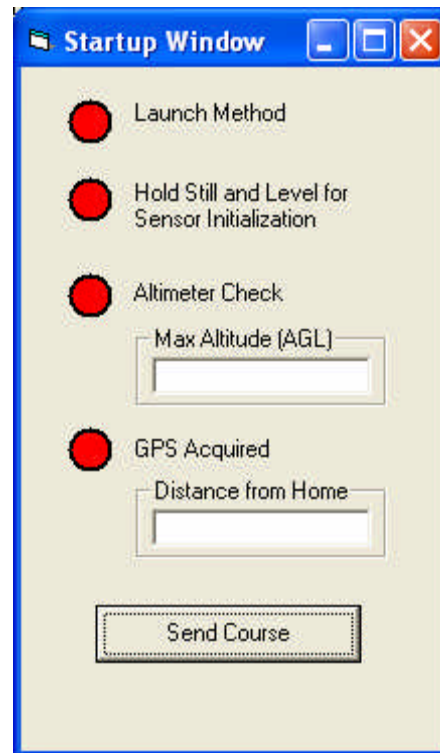

Figure 29. Startup window
- A *Startup* window will pop up with a checklist of the initialization sequence (Figure 29).